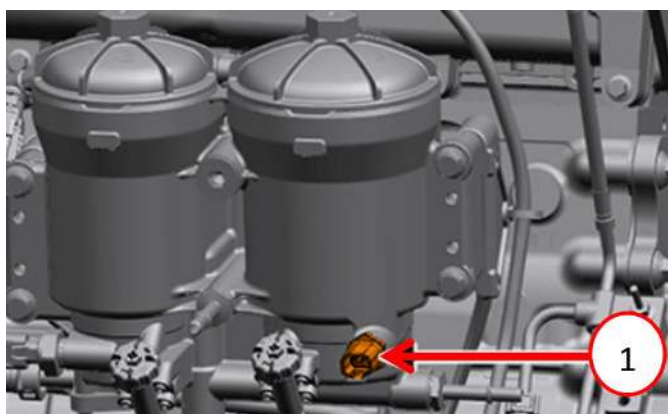

Fig. 2
5. Remove the WIF sensor Fig 2.